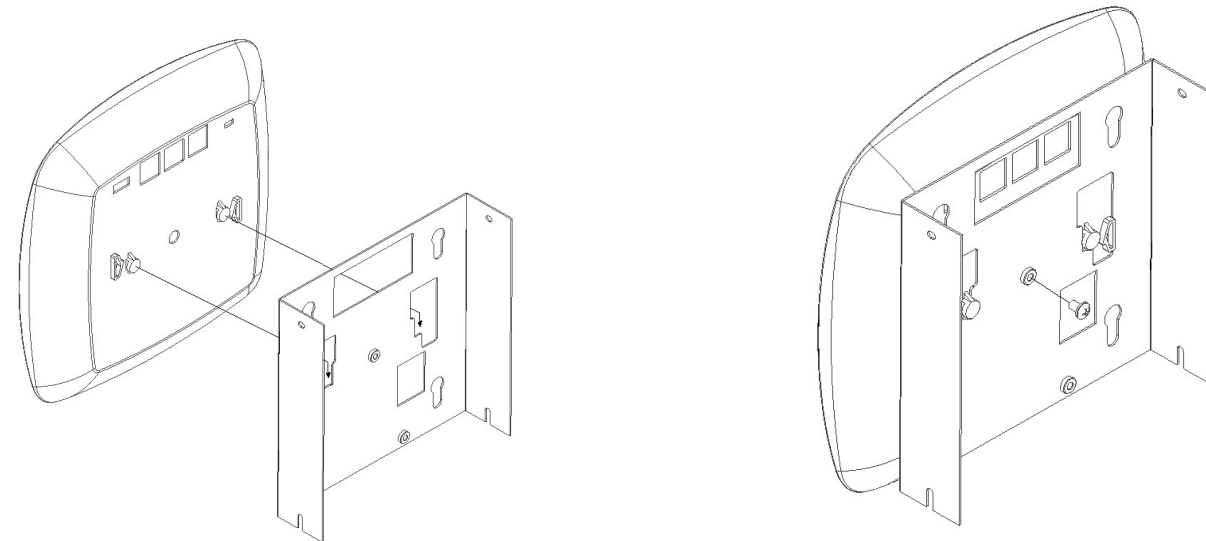

Figure 3 - Aruba Installation
Step 2 - **(ARUBA INSTALLATIONS)** To install an Aruba access point, align the round bosses on the back of the access point with the opening on the cover of the Oberon mount. Slide the access point down and secure in place using the #8-32 screw or plunger. Install the screw into the center nut to prevent the access point from being dislodged (Ref. Figure 3).